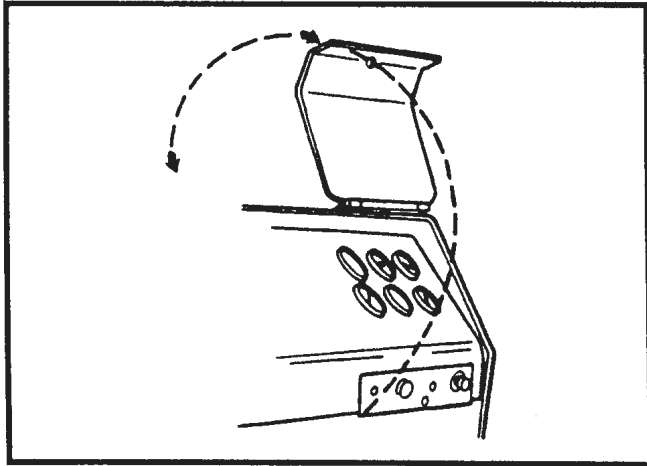

Figure 5-15. Anti-Vandalism Cover, Instrument Panel
4. Remove the ignition key. Lock all anti-vandalism covers. Refer to Figure 5-15.